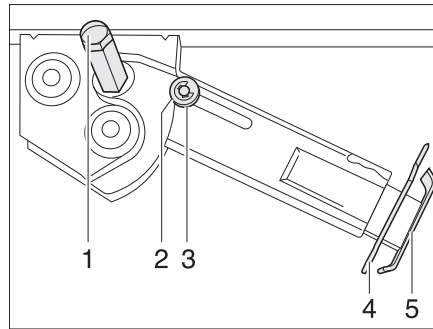

Fig. 35 Steady leg
- Place the socket spanner on the hexagonal nut (Fig. 35,1) and rotate until the steady leg is in a perpendicular downward position.
- Remove the splint (Fig. 35,4) out of the support foot extension (Fig. 35,5).
- Place the socket spanner on the hexagonal nut (Fig. 35,1) and rotate until the steady leg is clear of the ground.
- Push in the support foot extension (Fig. 35,5) and insert the splint (Fig. 35,4) in the drilled hole in the support foot extension.
- Rotate the hexagonal nut (Fig. 35,1) with the socket spanner until the steady leg has swung upwards and the guide disc (Fig. 35,3) has completely retracted into the notch (Fig. 35,2).